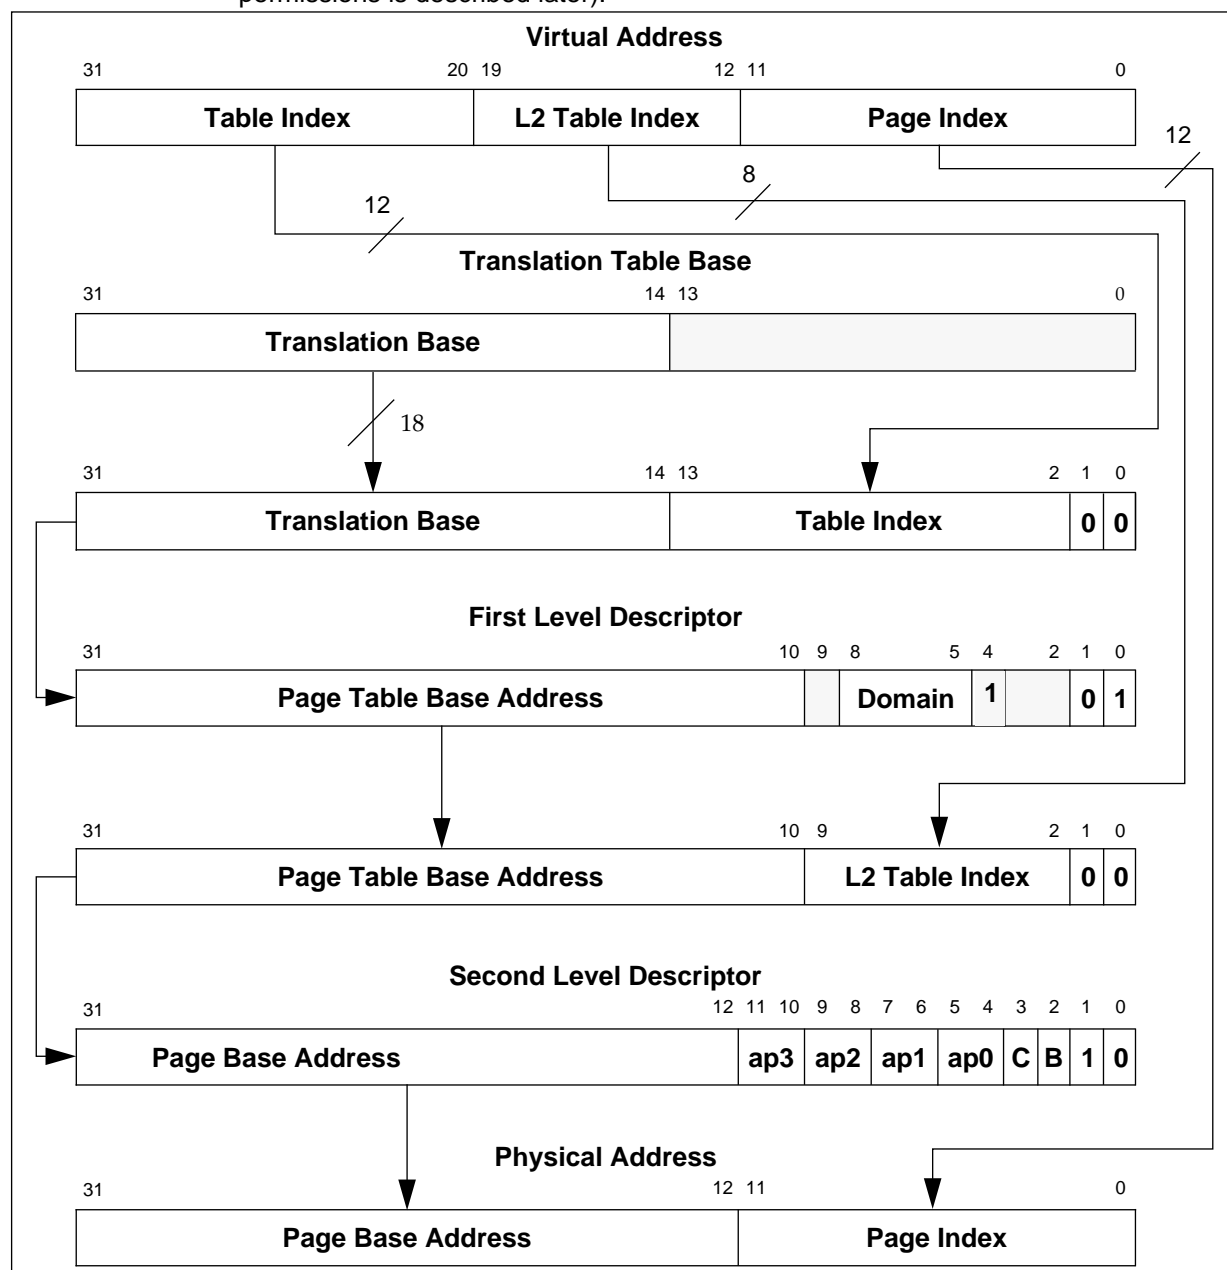
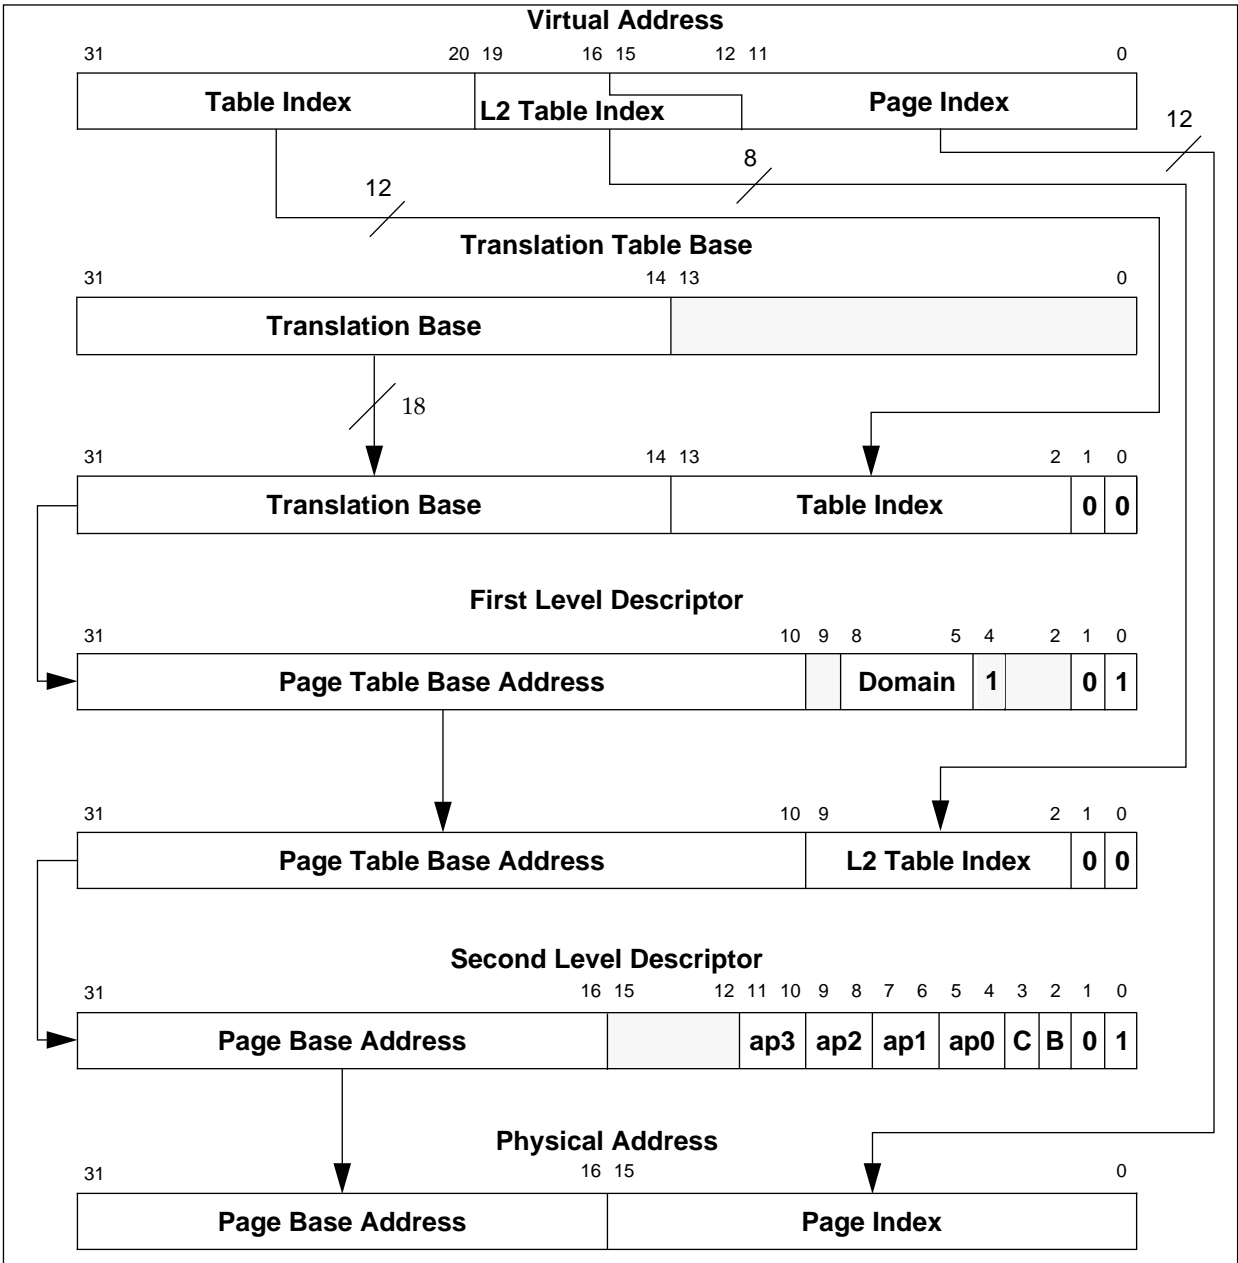

Figure 7-7: *Small page translation*
Figure 7-8: Large page translation
**Bits 31:10** form the base for referencing the Page Table Entry. (The page table index for the entry is derived from the virtual address as illustrated in **Figure 7-7: Small page translation** on page 7-10).
If the Level One fetch returns a Page Table Descriptor, this provides the base address of the page table to be used. The page table is then accessed as described in Figure 7-7: Small page translation on page 7-10, and a Page Table Entry, or Level Two Descriptor, is returned. This in turn may define either a Small Page or a Large Page access. The figure below shows the format of Level Two Descriptors
**Bits 31:12** (small pages) or **bits 31:16** (large pages) are used to form the corresponding bits of the physical address - the physical page number. (The page index is derived from the virtual address as illustrated in **Figure 7-7: Small page translation** on page 7-10 and **Figure 7-8: Large page translation** on page 7-11).
Figure 7-7: *Small page translation* illustrates the complete translation sequence for a 4kB Small Page. Page translation involves one additional step beyond that of a section translation: the Level One descriptor is the Page Table descriptor, and this is used to point to the Level Two descriptor, or Page Table Entry. (Note that the access permissions are now contained in the Level Two descriptor and must be checked before the physical address is generated. The sequence for checking access permissions is described later).
Figure 7-8: Large page translation illustrates the complete translation sequence for a 64 kB Large Page. Note that since the upper four bits of the Page Index and low-order four bits of the Page Table index overlap, each Page Table Entry for a Large Page must be duplicated 16 times (in consecutive memory locations) in the Page Table.